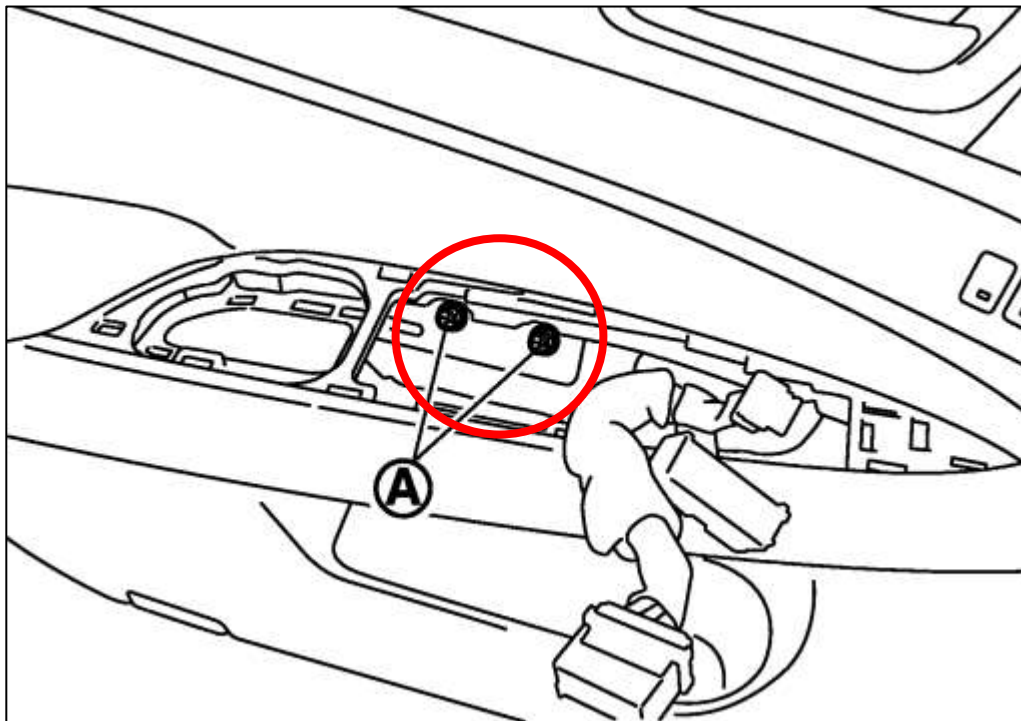

Figure 67
5. Remove the (2) two Bolts under the Door Control Panel. *Figure 67.*